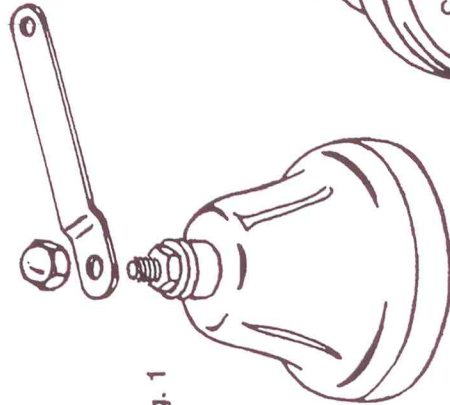

Fig. 1
2. Place the mounting bracket onto the Bell's threaded bolt. Put the acorn nut onto the threaded bolt and tighten. See fig. 1. Mounting bracket is held in place by **tightening the hex nut under bracket**. NOTE: hex nut was installed on thread bolt at the factory.